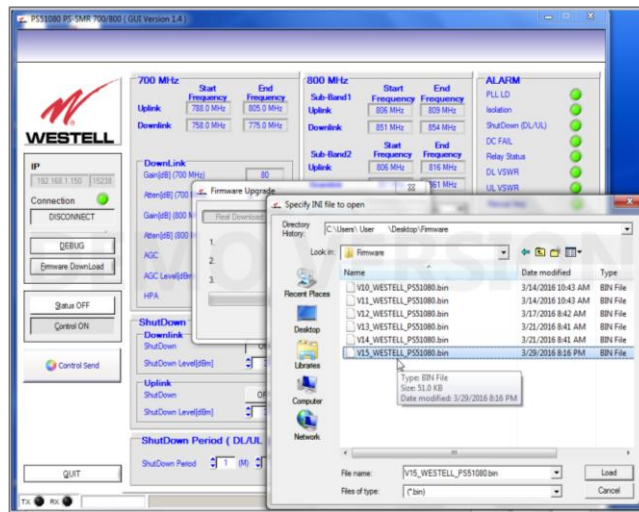
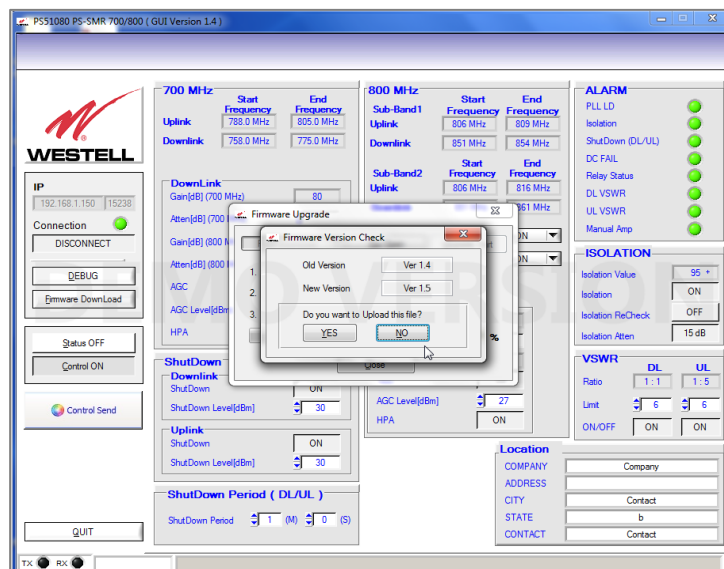
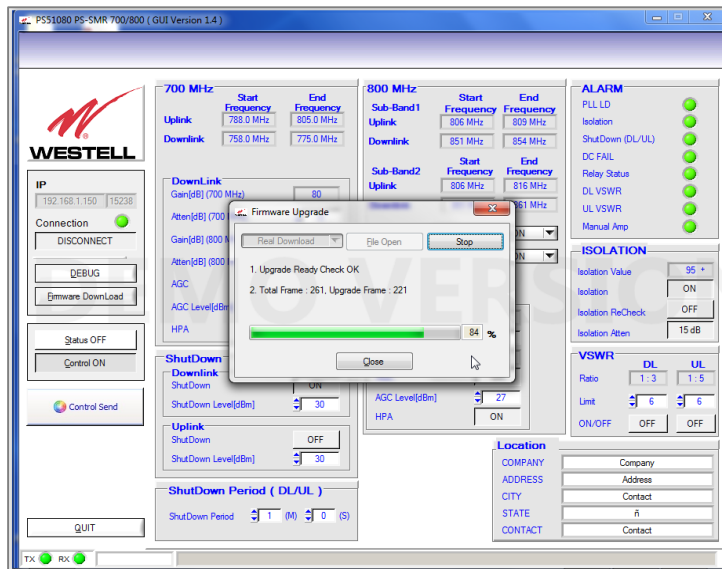

Figure 7-7: Navigate to the New Software BIN File
Figure 7-8: Firmware Version Check
Figure 7-9: File Upload Begins
4. When the **Select INI File to Open** browser displays, navigate to the location of the new software version BIN file, Figure 7-7.
6. Click in the **Specify INI File to Open** browser window, Figure 7-7. The Firmware Version Check dialog window displays, Figure 7-8.
7. Click in the Firmware Version Check dialog window, Figure 7-8. The firmware upgrade begins, as indicated by the progress bar in the Firmware Version Check window, Figure 7-9.